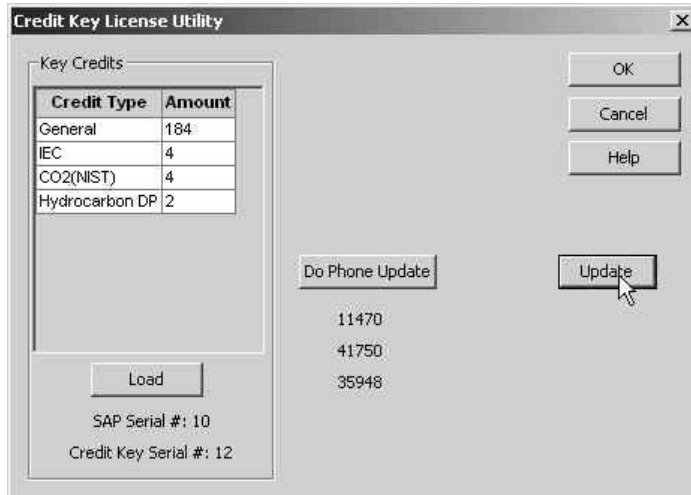

Figure 60: Application Credit Verification Codes
- Upon clicking **Update**, three more codes will be displayed directly beneath *Do Phone Update* (Figure 60).